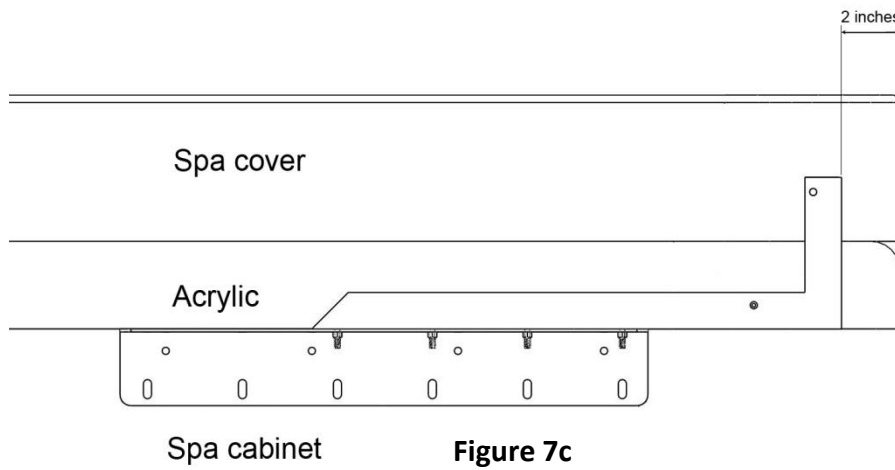

Figure 7c
c. The rear of the Channel Bracket (cvBB) should be 2 inches from the rear edge of the acrylic. The top of the Side Mount Bracket (cvAA) should be flush with the top of the spa cabinet. See Fig 7c.